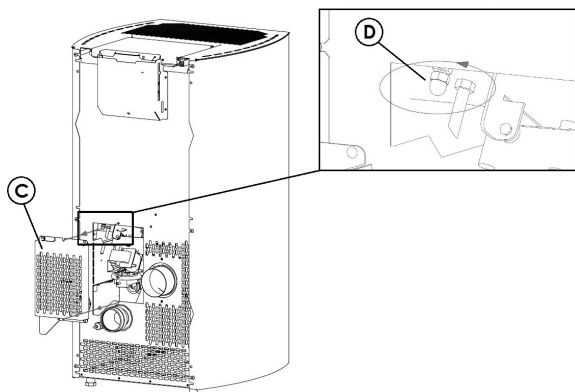

Fig. 76 - Casing removal
- Remove inspection casing "C" from the back of the stove (see **Fig. 76**).